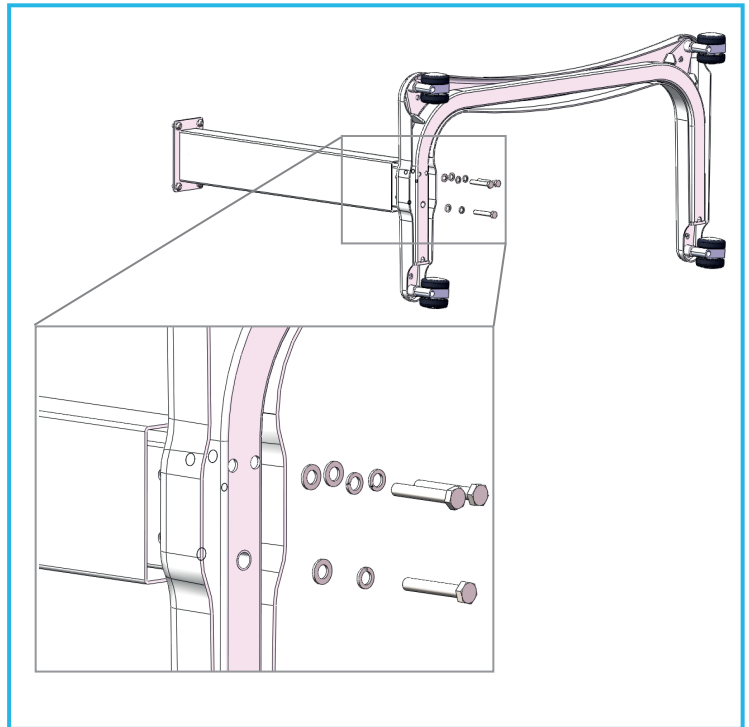

Figure 5
- Put the Base Assembly on its side and locate the spring column in position. See Figure 5.
- Secure using three M8 x 55 Bolts, Split Washers and M8 Washers, see Figure 5.